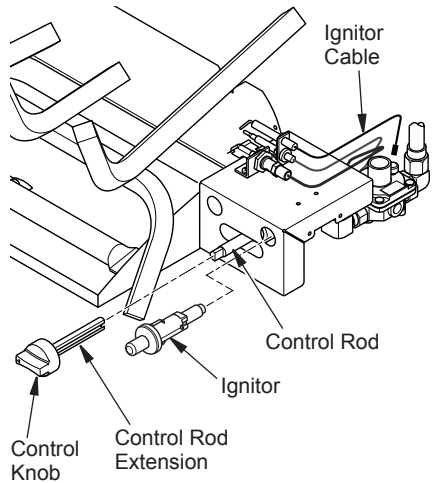

Figure 16
14. Install the control knob to the control rod extension. Push the control rod extension onto the "D" shaped control rod through the center hole in the cover as shown in Figure 16.